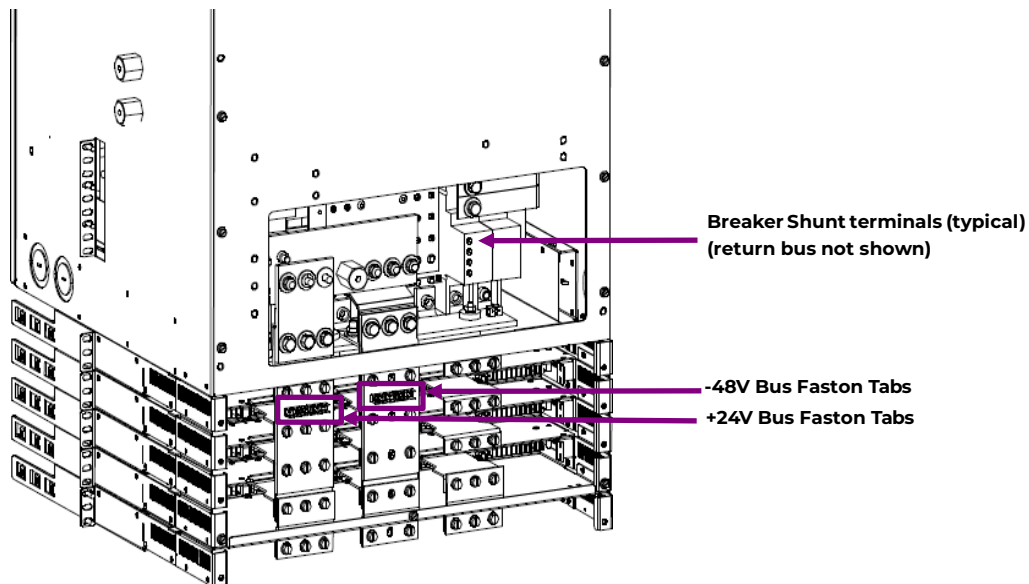

Figure 5 Terminal Locations (rear view)
- b. On the -48V and +24V buses - Figure 5
Yellow wire to top alarm strip Faston tab of the left side distribution panel (front access). White wire to Battery Bus – Faston tab (rear access) - Figure 5.
See Figure 5 for Breaker and Battery Bus terminal locations